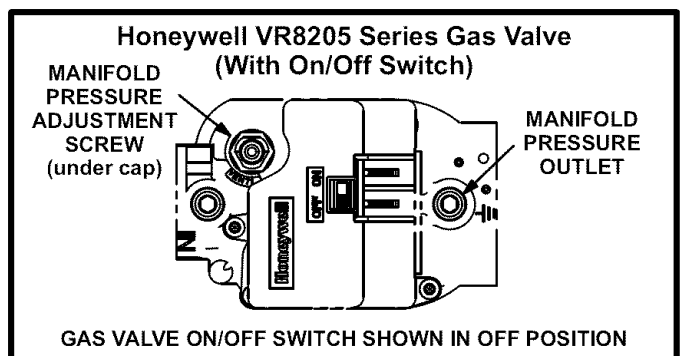

FIGURE 27
#### Gas Valve Operation (Figures 27, 28 and 29)
- 6 - *Honeywell VR8205 Gas Valve with ON/OFF Switch* - Move gas valve switch to **OFF**. See figure 27.
- 8 - *Honeywell VR8205 Gas Valve with ON/OFF Switch* - Move gas valve switch to **ON**. See figure 27.
- 4 - *Honeywell VR8205 Gas Valve with ON/OFF Switch* - Move gas valve switch to **OFF**. See figure 27.
ral gas at all altitudes is 3.5" w.c. Manifold pressure for all units fueled by L.P./propane gas at all altitudes is 10.0" w.c. See figures 27, 28 and 29 for the location of the manifold pressure adjustment screws.